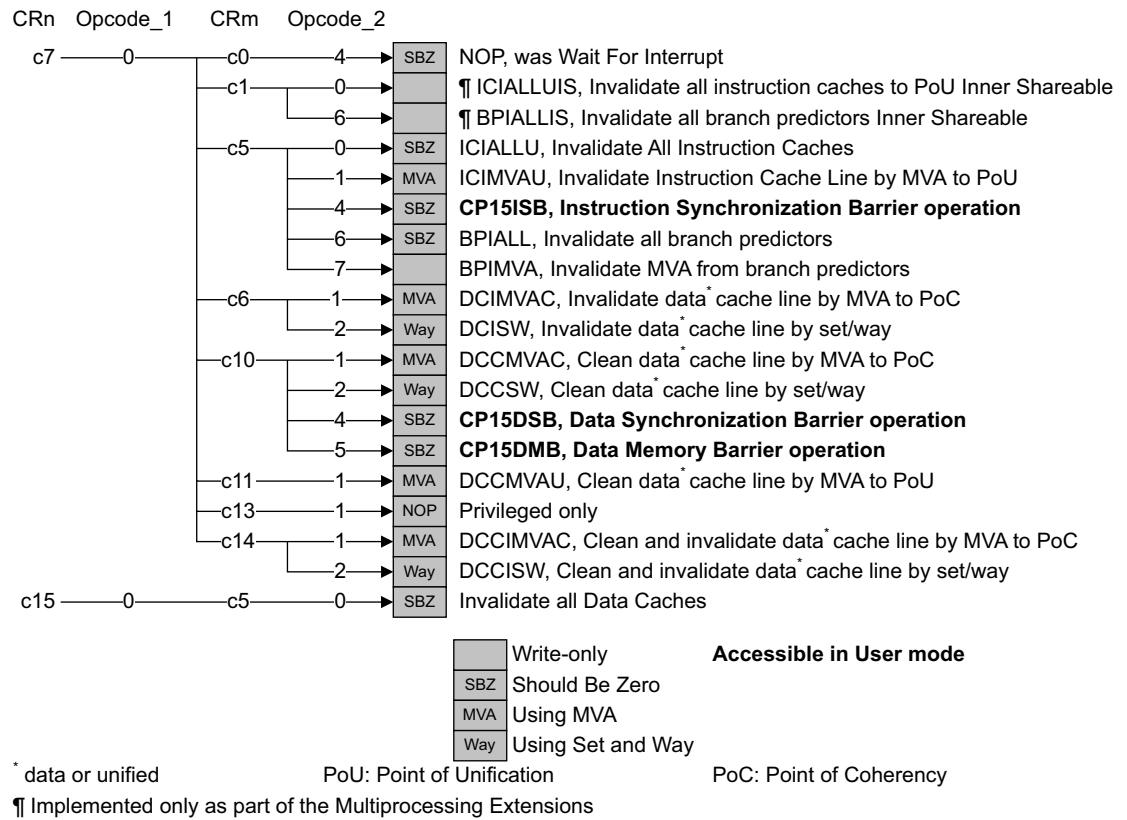

Figure 4-38 Cache operations
Figure 4-38 on page 4-61 shows the arrangement of the functions in this group that operate with the MCR and MRC instructions.
- The following operations, as Figure 4-38 on page 4-61 shows, are implemented as No Operation, NOP, on the processor:
- Writing c7 with a combination of CRm and Opcode_2 not listed in Figure 4-38 results in an Undefined Instruction exception.